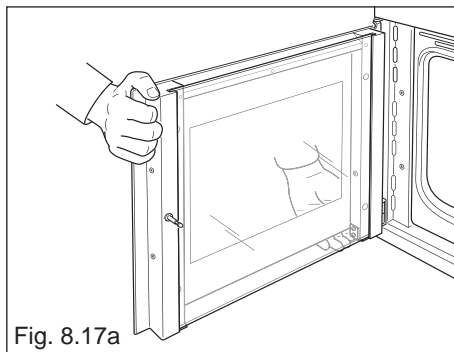
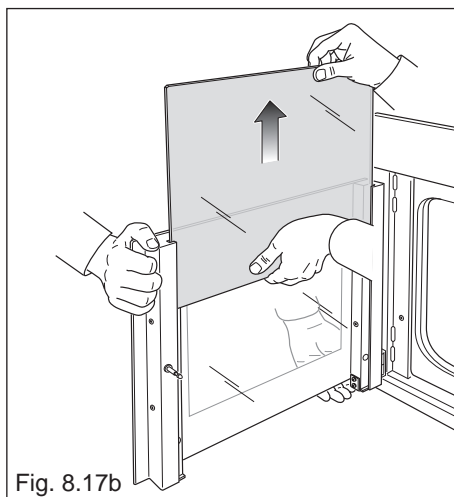

Fig. 8.17a
Fig. 8.17b
When removing and replacing the inner glass, the door should be held still by one person (fig. 8.17a). A second person should gently remove the glass (fig. 8.17b).
- Gently pull out the inner pane of glass (fig. 8.17b). Forcible removal of the door glass may lead to damage of the door hinges.